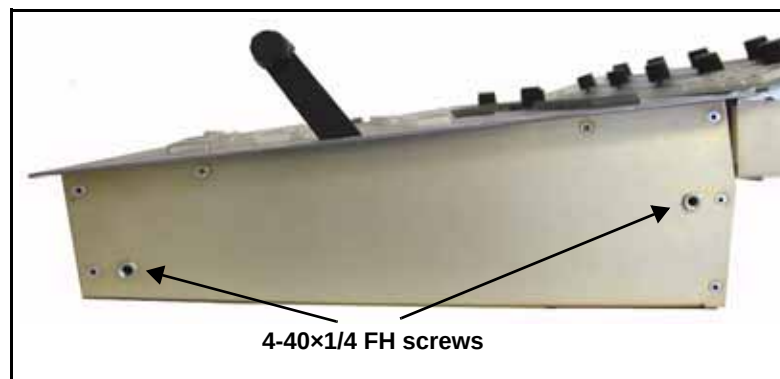

Figure 2-11. Main Control Panel Side Screws
4. Replace the middle two screws on each side of the main control panel with 4-40×1/4 FH screws (see Figure 2-11).